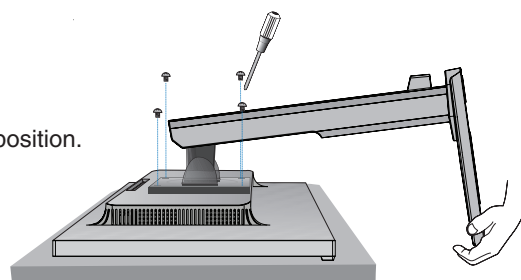

Figure S.1
- Place the monitor face down on a non-abrasive surface (**Figure S.1**).
- Remove the 4 screws connecting the monitor stand to the monitor (**Figure S.1**).